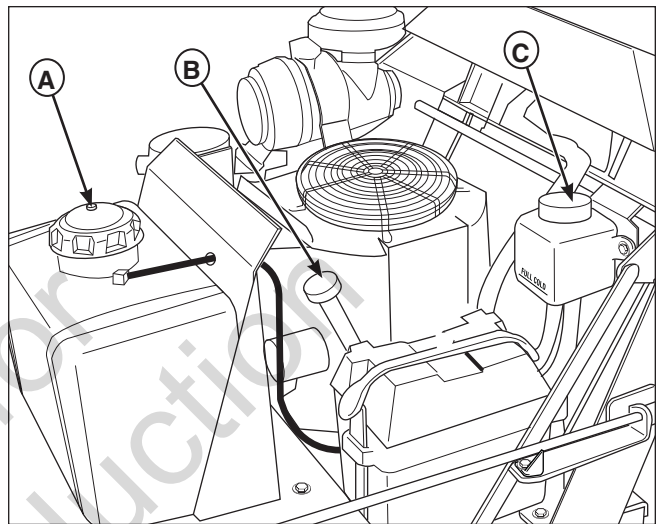

Figure 2. Pre-start Checks
- Check that crankcase is filled to full mark on dipstick (B, Figure 2). See the engine Operator's Manual for instructions and oil recommendations.
- Fill the fuel tank (A) with fresh fuel. Refer to engine manual for fuel recommendations.
- Check the hydraulic oil tank (C) and make sure that the oil level is up to the FULL COLD mark.